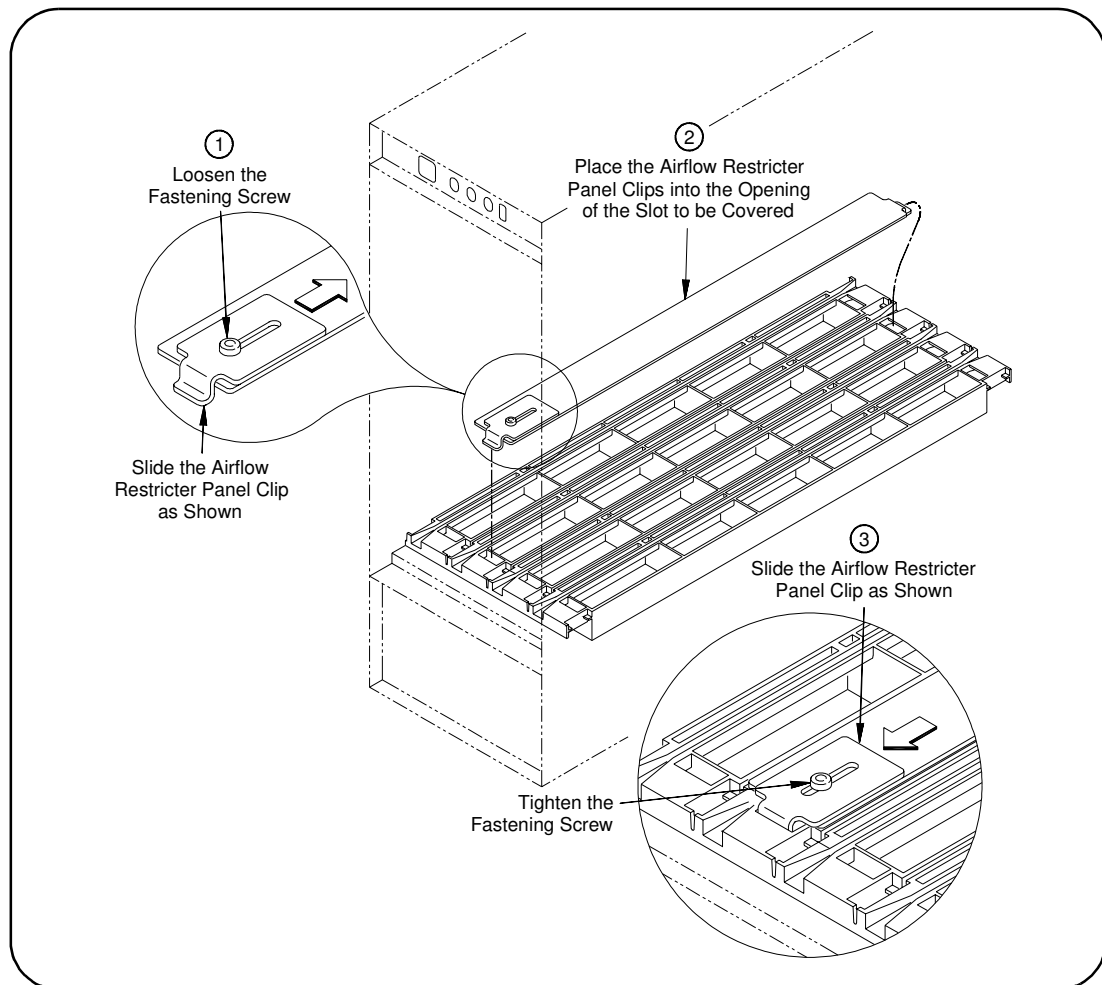

Figure 2-23. Installing the Airflow Restricter
- 3 Follow the steps in Figure 2-23 to install the Airflow Restricter.